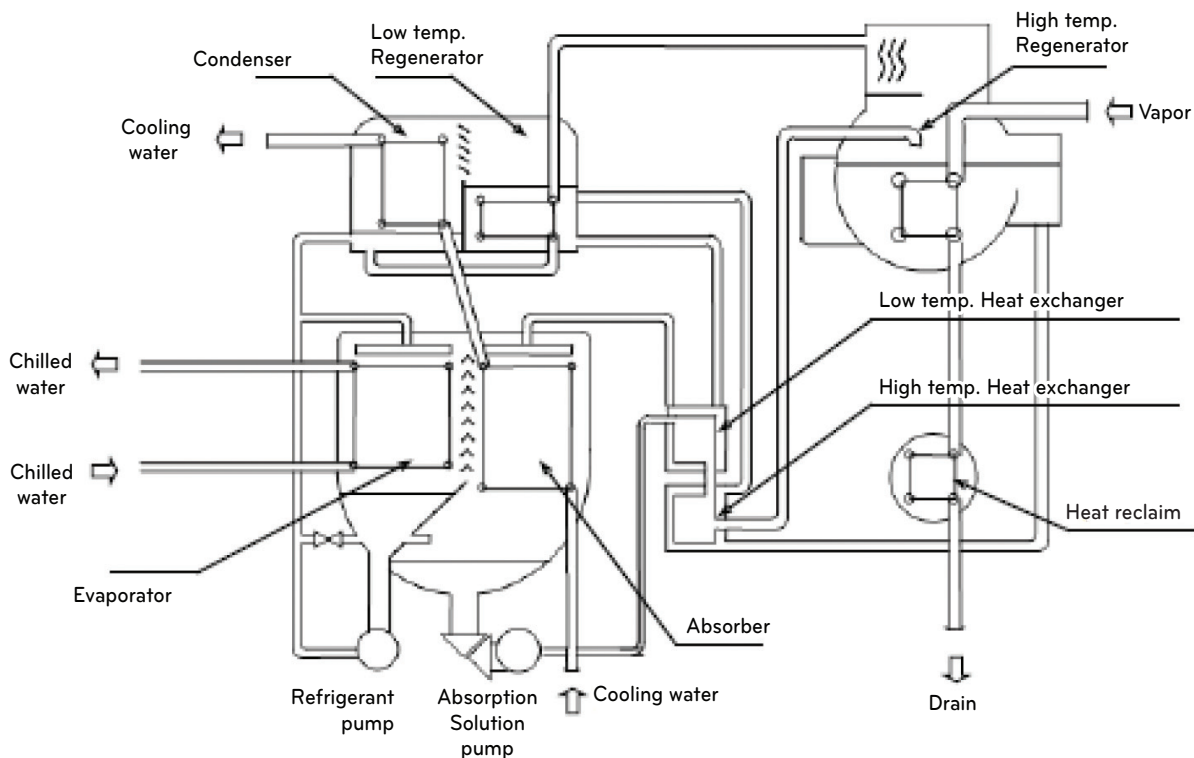

Figure 1-4. Basic cycle of absorption chiller
- It is the principle of the chilled water production by an absorption chiller. (basic cycle of absorption figure 1-4)